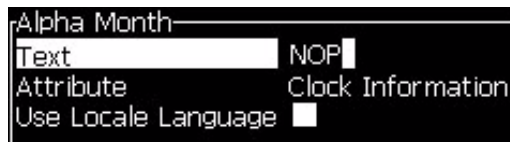

Figure 5-21: Edit the Code
- 5 Edit the code for *Alpha Month* (see Figure 5-21). Refer to “To Set Clock Information” on page 5-36 and Table 5-12 on page 5-36 for more information.